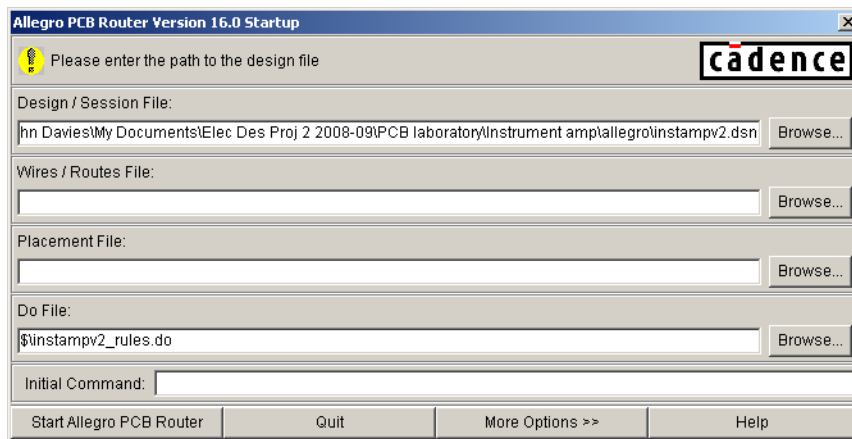

Figure 15. Startup dialogue box for importing a design into PCB Router.
2. Start OrCAD PCB Router from the Windows Start menu. You are presented with the fairly complicated dialogue box shown in figure 15 on the following page. Use the Browse... buttons to open the following two files.